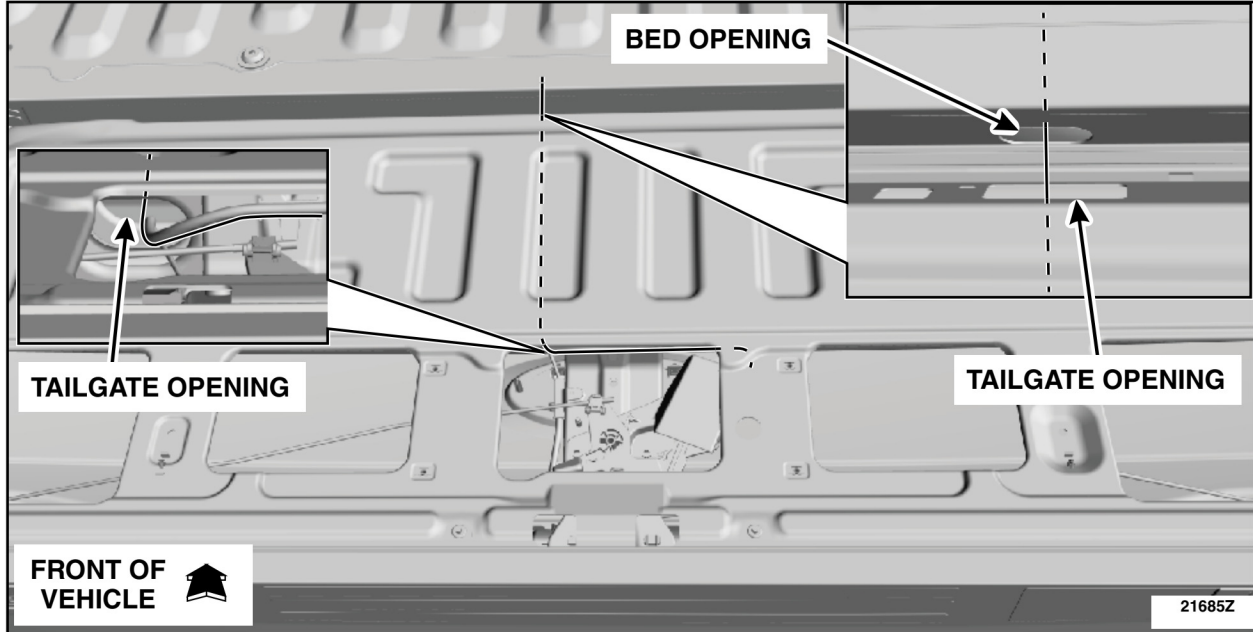

FIGURE 27
31. Using a straightened coat hanger, tape the sealed terminal end of the Tailgate Jumper Harness Wire to one end of the coat hanger. Route the wire and coat hanger on the Left Hand (LH) side of the tailgate latch control assembly and through the opening in the center bottom of the tailgate. Continue to pass through the opening in the bed and down through the bottom of the vehicle. See Figure 27.